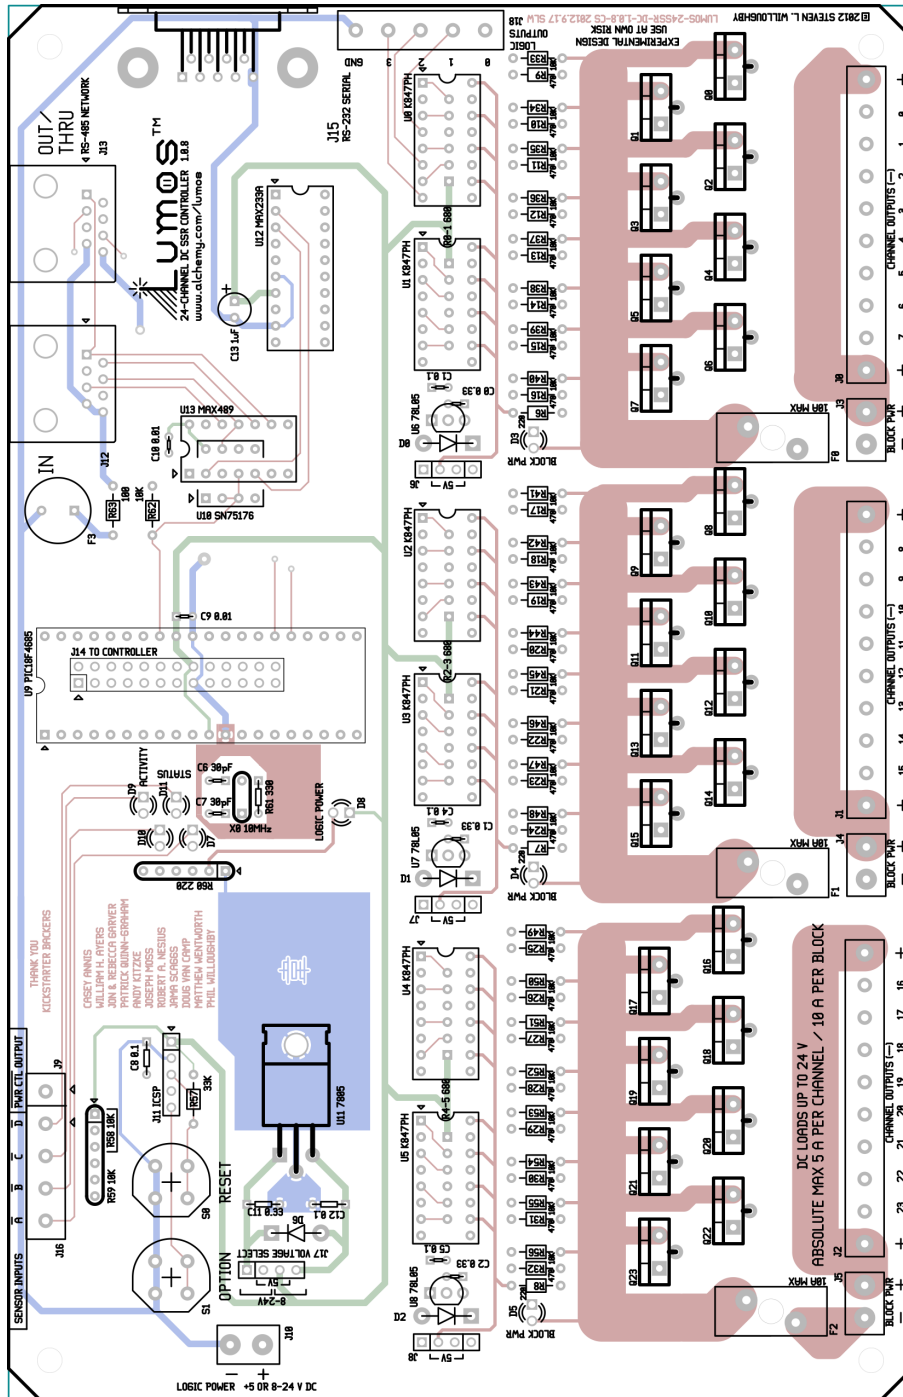
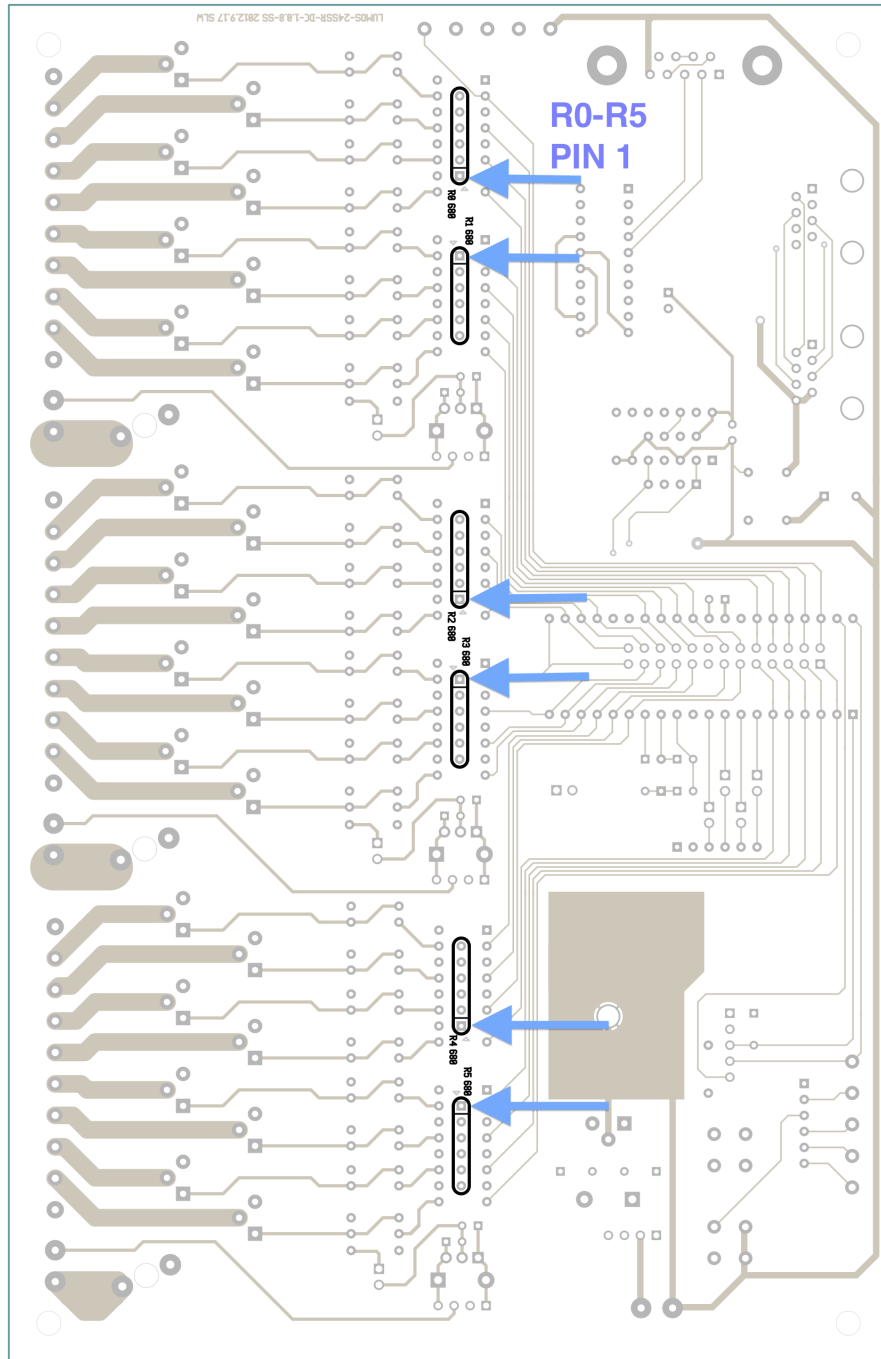

Figure 5.1: Lumos Board Parts Placement Diagram
Figure 5.2: Lumos Board Parts Placement (Reverse Side)
Refer to Figure 5.1 throughout these instructions to see where the components are located on the PCB. The locations are also labeled on the PCB itself.
1. Install (3) 220 Ω resistors in positions R6–R8 as marked on the PCB and Figure 5.1. These have the color bands “red-red-brown” marking them. Push them all the way until flush with the PCB.
4. Repeat steps 1–3 to install (24) 470 Ω resistors (“yellow-violet-brown”) at R9–R32.
5. Repeat steps 1–3 to install (24) 10 K resistors (“brown-black-orange”) at R33–R56.
6. In the same fashion, install and solder (3) 0.33 μ F capacitors into positions marked C0–C2.
7. Install and solder (3) 0.1 μ F capacitors into positions C3–C5. **NOTE: Capacitor C3 is located nearest to C0 on the PCB. On board versions through 1.0.8, this is mis-labeled as “C1.”**
8. Install (3) 1N4004 diodes at D0–D2. **Note: These parts will not function if inserted the wrong direction.** Each diode has a stripe on one end. This end is inserted into the hole marked by the straight line (cathode) drawn on the PCB. The unmarked end goes into the hole marked by the triangle (anode). Solder into place.
9. Install (3) green LEDs at D3–D5. **Note: These must be inserted in the correct orientation.** The longer lead (anode) goes into the square hole, while the shorter lead (cathode) goes into the round hole. Solder into place.
12. Install (1) 680 Ω resistor network *on the bottom (solder) side* of the board at R0 (the row of six holes *inside* U0). **Note the correct position of R0.** The square hole on the PCB marks where pin 1 of R0 should be inserted. Pin 1 is marked with a dot on R0 itself. See Figure 5.2.